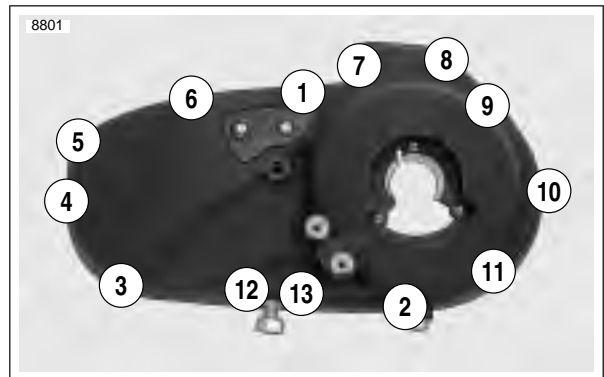

Figure 6-5. Primary Cover Tightening Sequence
4. See Figure 6-5. Tighten fasteners to 100-120 in-lbs (11.3-13.5 Nm) in sequence shown.